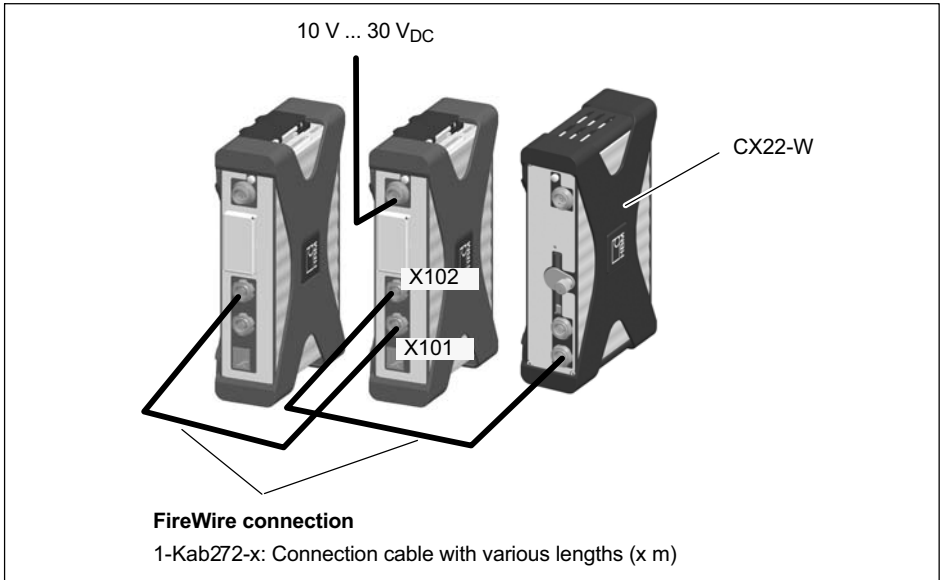

Fig. 6.1 Connecting QuantumX modules to the CX22-W data recorder
Connect a supply voltage of 10 V ... 30 V (DC) to the X103 connection (see Abb. 6.1). Use a supply voltage with sufficient power. A FireWire connection can pass the supply voltage on to further modules (1.5 A respectively in both directions). Rule of thumb: